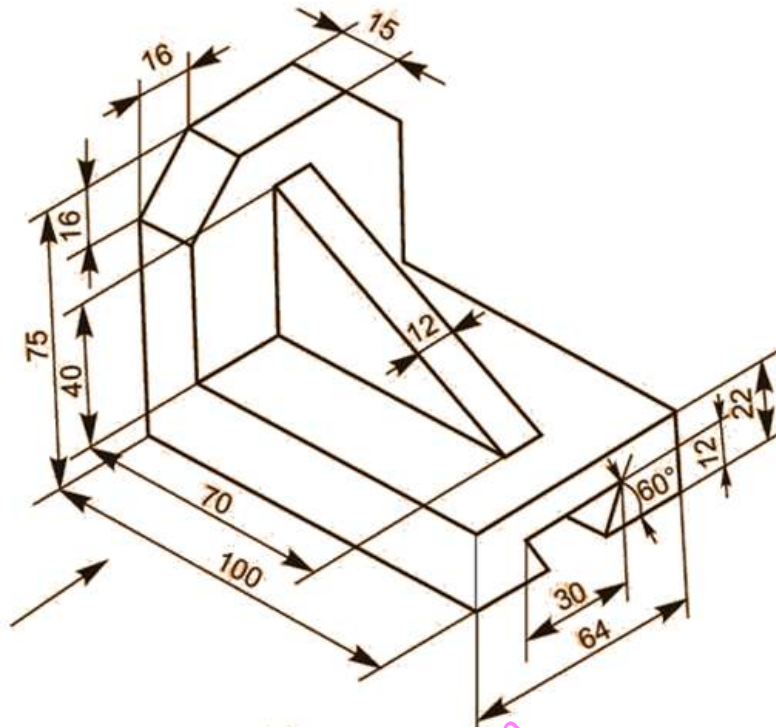

Fig 2.
- a) Figure 2 shows a pictorial view of a machine block. Draw the following views in first angle projection.